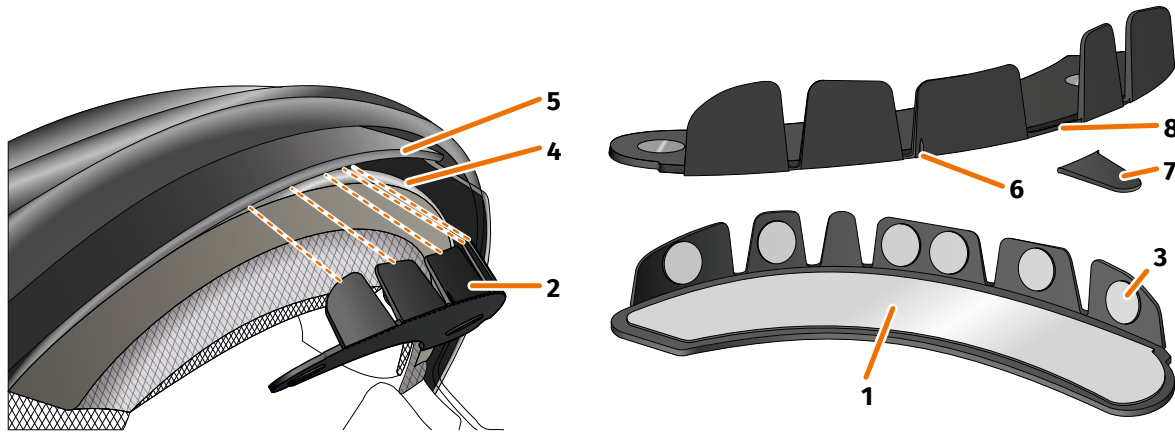

FIGURE 9: Gluing in the helmet adapter with tabs
2. Stick the large adhesive pad (FIGURE 9/1) to the side of the helmet adapter (FIGURE 9/2) on which you can see the magnets.
3. Stick the small adhesive pads (FIGURE 9/3) to the insides of the tabs.
4. Place the helmet adapter (FIGURE 9/2) in the forehead section of the helmet between the interior shell (FIGURE 9/4) and the sun visor (FIGURE 9/5). At the front of the helmet adapter, there is a mark (FIGURE 9/6) that should be placed on an imaginary line between the middle of your helmet and the middle of your face. Make sure the helmet adapter does not collide with the sun visor.
If you notice that individual tabs collide with the helmet material, you can simply break off up to three tabs (as shown in FIGURE 9/7, for example). The tabs are perforated at the bottom edge (FIGURE 9/8) to facilitate break-off. You may use a file or scissors to smoothen the breaking points a little.